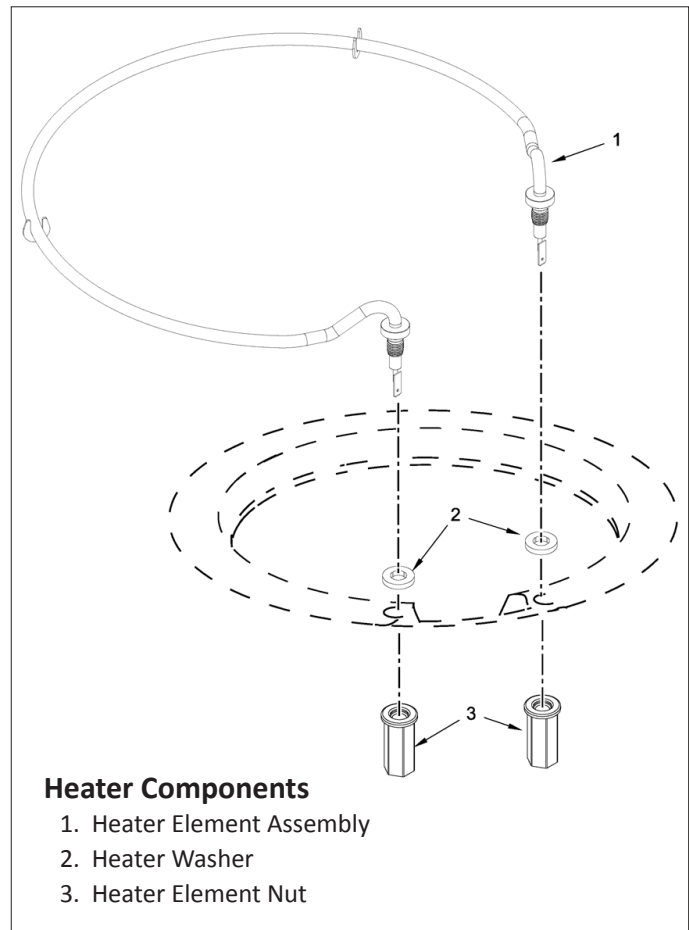

Figure 2
3. Remove both heater element nuts (see Figure 2).